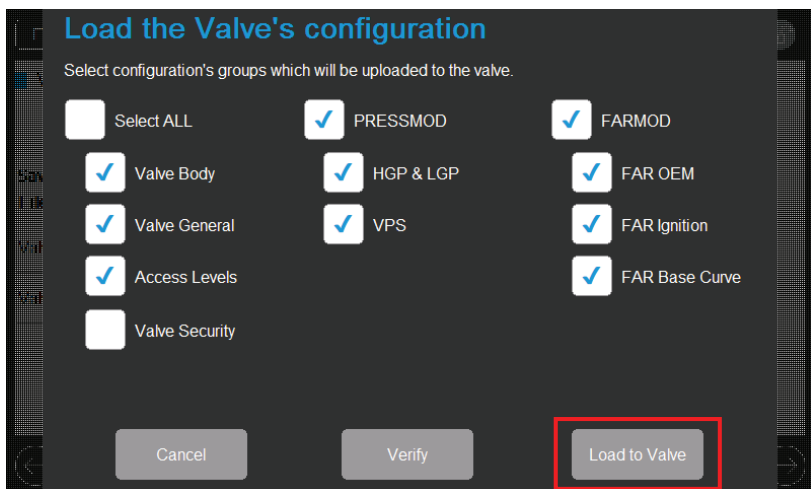

Fig. 105: Valve Production Cloning configuration groups selection, with passwords, 'Valve Security' group not selected.
- b. If the 'Valve Security' group is unchecked, the OEM main password does not need to be entered on this page. Refer to Fig. 105.